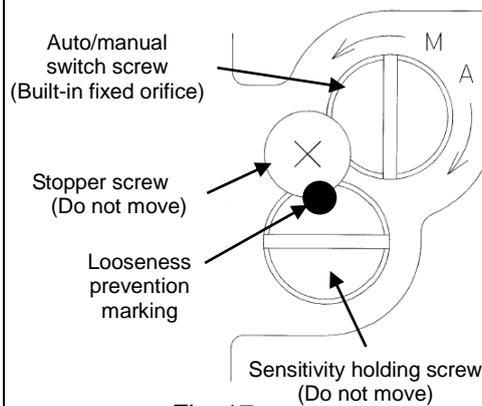

Fig. 17
*6: Auto and manual mode can be switched by rotating the pilot valve unit auto/manual switch screw to the manual (M) side as shown in Fig. 17. A small stopper screw in the top is to prevent loosening and must not be tampered with or loosened. Also, a sensitivity holding screw is set prior to factory shipment and must not be accidentally rotated.